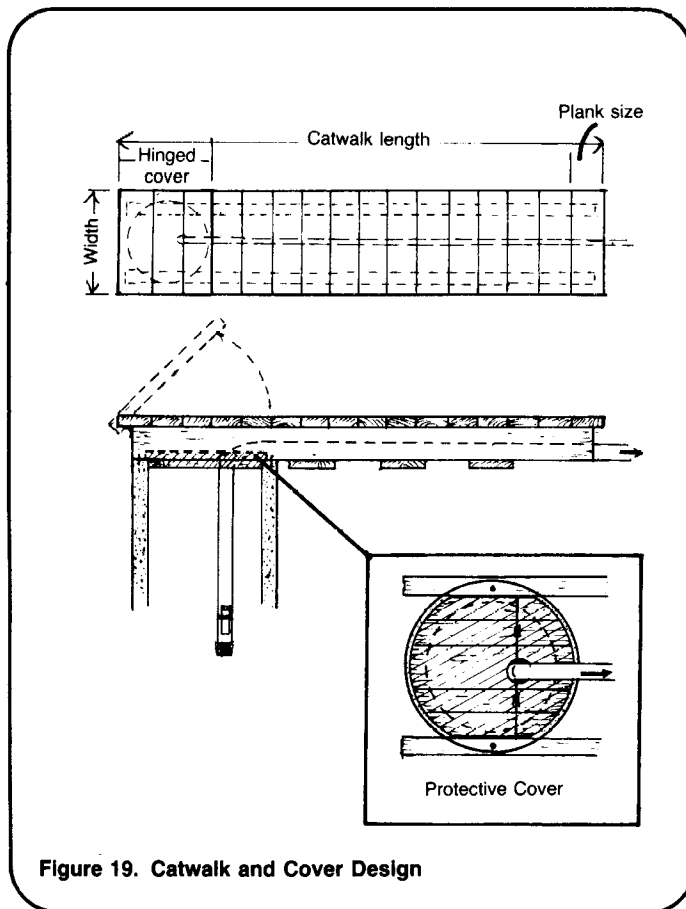

Figure 19. Catwalk and Cover Design
8. Connect a union joint to the end of the pipe so that a straight piece of pipe extends down from the catwalk into the water in the concrete ring. See Figure 19. Place a check valve at the end of the intake pipe. Be sure that the end of the pipe rests below the water level, but not close to the flow of the stream.